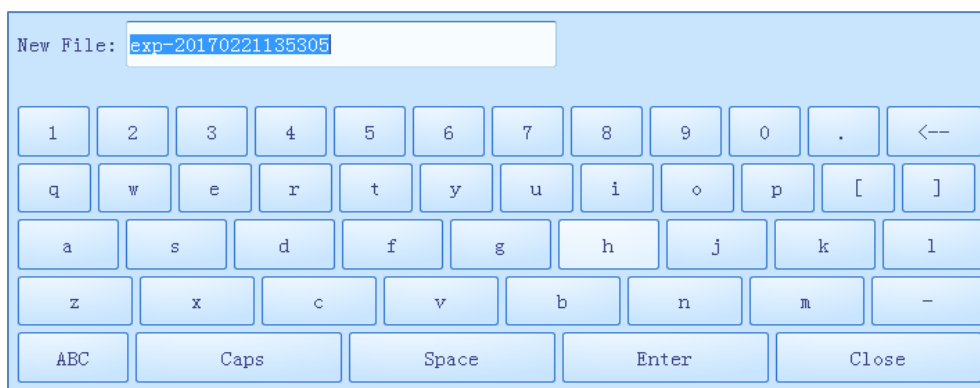

Figure E-2.4 Experiment File tab - keyboard
- ❗ **Reminding:** the system will pop up a keyboard for user to name the new experiment file or file folder, as shown in figure E-2.4. User can press < Close > to exit the keyboard.